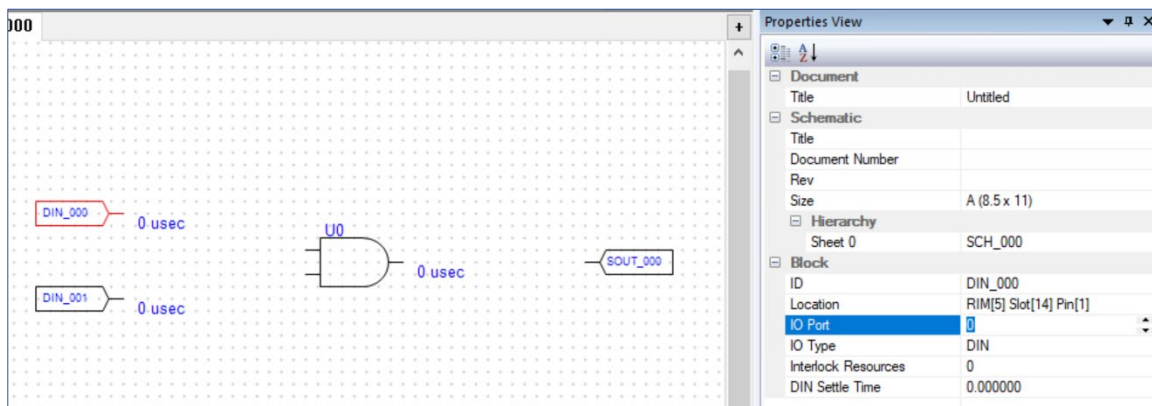
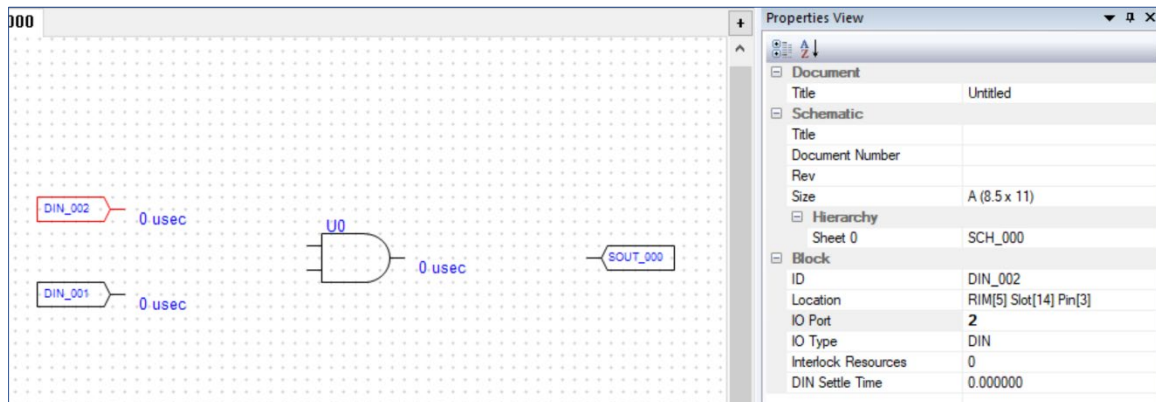

Figure 31 - Properties of Selected DIN Port
Figure 32 - DIN Port Reassigned to IO Port 2
- 2) Change the IO Port properties of each DIN and SOUT port by clicking on each IO Port block (Figure 31 - Properties of Selected DIN Port) then changing its IO Port property (Figure 32 - DIN Port Reassigned to IO Port 2). IO Port numbers to use for this example are described here: